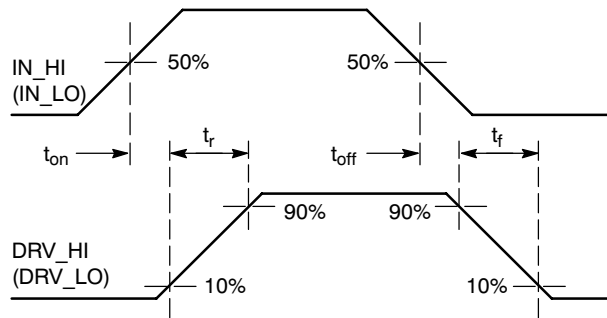
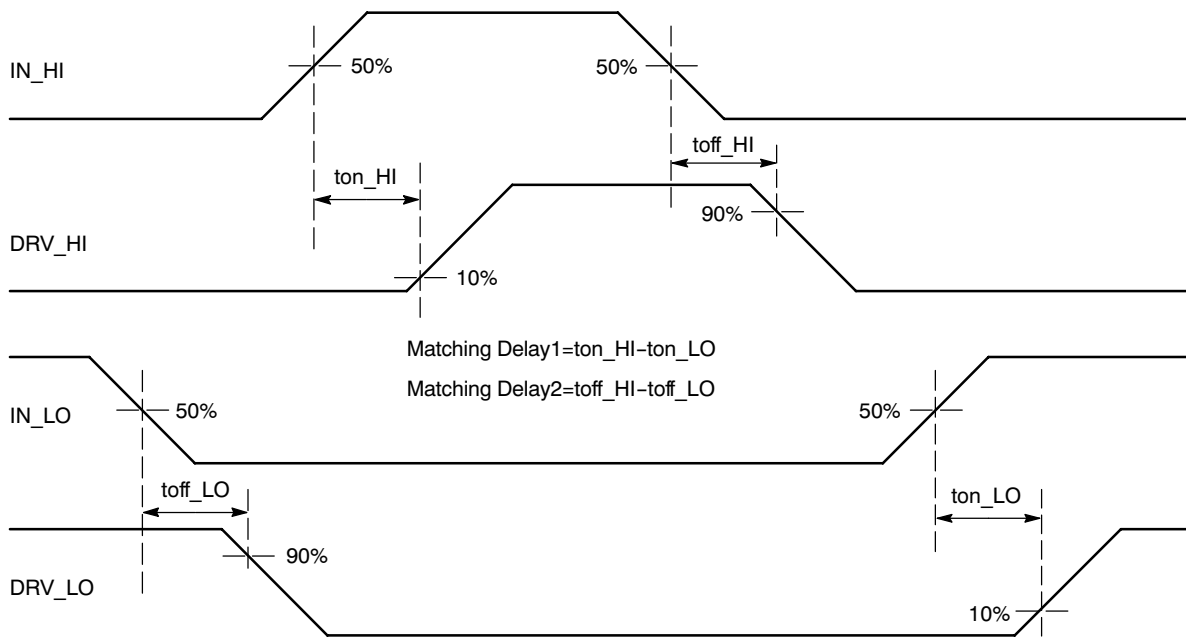

Figure 5. Propagation Delay and Rise / Fall Time Definition
Figure 6. Matching Propagation Delay
- Timing diagram definition see: Figure 5 and Figure 6.